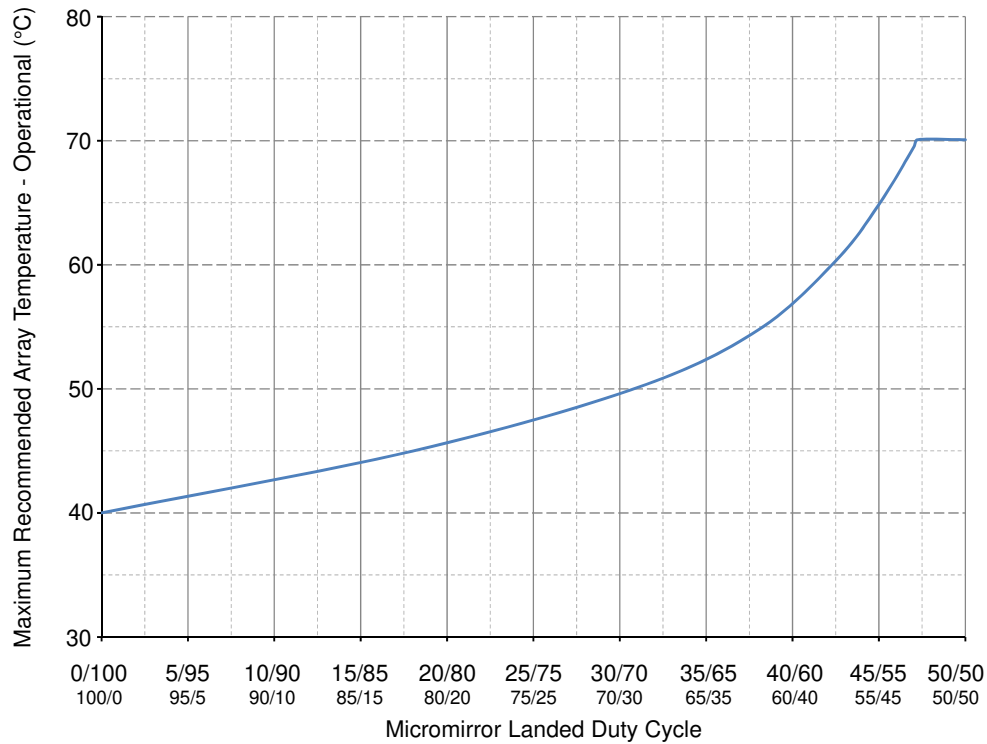

Figure 1. Maximum Recommended Array Temperature - Derating Curve
- (13) Per Figure 1, the maximum operational array temperature derates based on the micromirror landed duty cycle that the DMD experiences in the end application. See Micromirror Landed-On/Landed-Off Duty Cycle for a definition of micromirror landed duty cycle.
- (14) Long-term is defined as the useful life of the device.
- (15) Short-term is the total cumulative time over the useful life of the device.